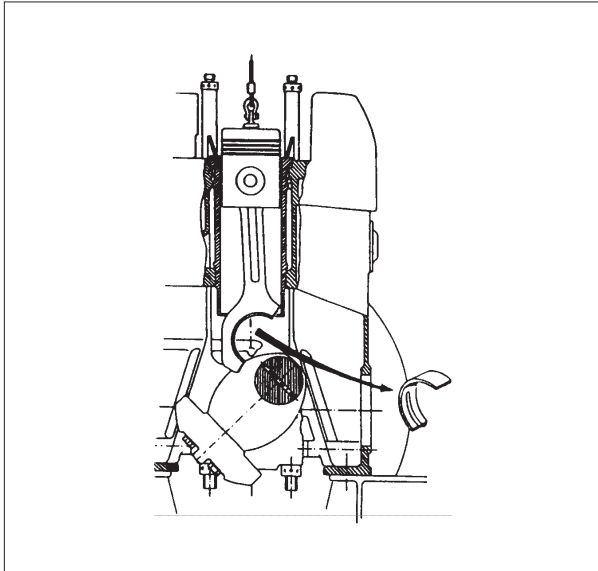

Fig 3. Removal of upper big-end bearing shell.
11) Pull the piston and connecting rod assembly upwards and remove the upper big-end bearing shell, *see fig 3*.